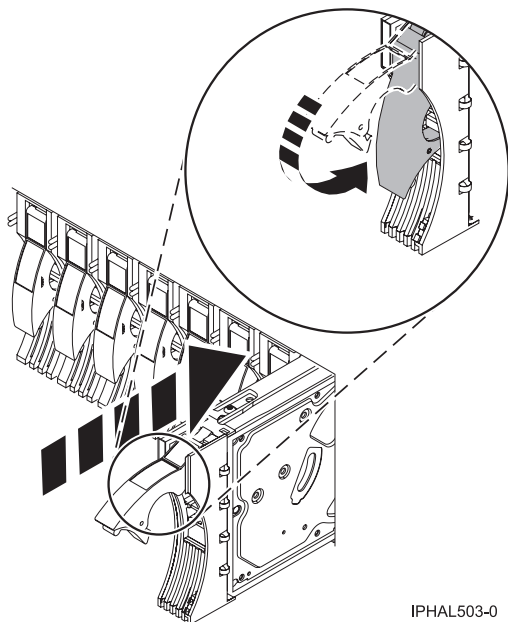

Figure 29. Installing a disk drive in a model or 11D/20
- Slide the disk drive all the way into the system or expansion unit and then lock it in place by pushing in the disk drive handle, as shown in Figure 29.